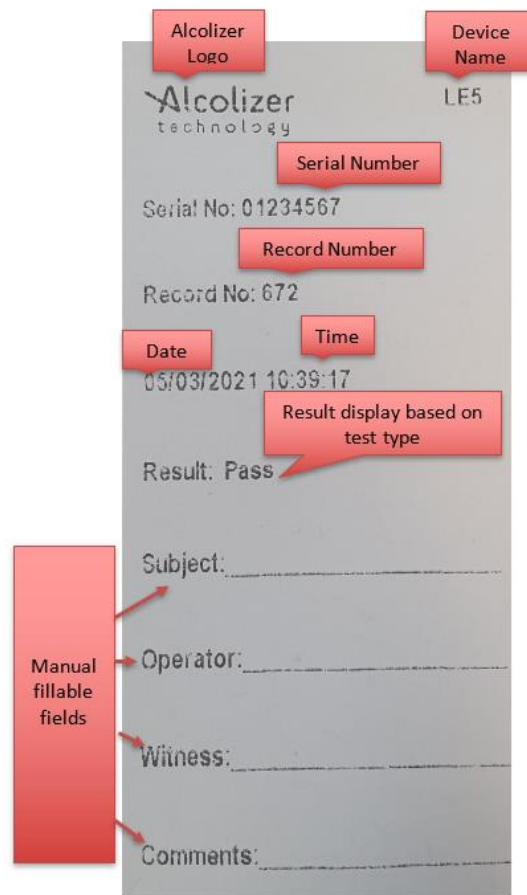

Figure 95 Print Ticket- Format 0
- Default standard format- See print ticket below (Refer Figure 95)